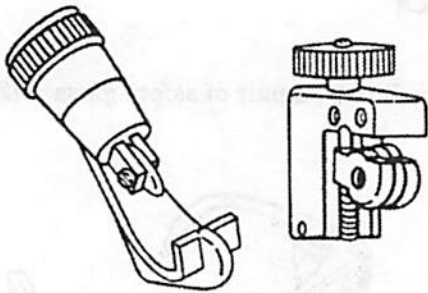

FIGURE 3
•You should have a standard tubing cutter and mini-cutter (or "imp" cutter) (fig. 3) that will be very useful for cutting tubing in tight places where a standard cutter will not turn.